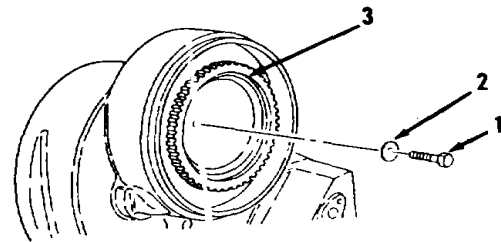

Figure 14-1.
1. Remove bolt (1), retainer (2) and coupling (3, Figure 14-1) from transmission on torque converter side.